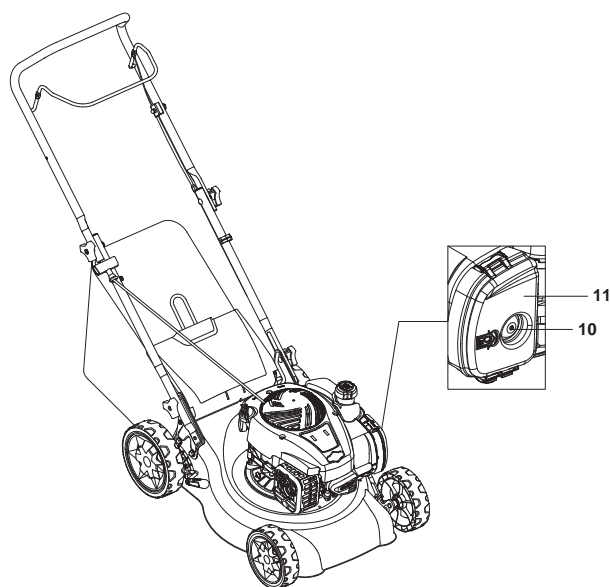

Fig. 15
The primer (10) is positioned in the air filter case (11). Use the primer (10) when starting the product with cold engine (Fig. 15).